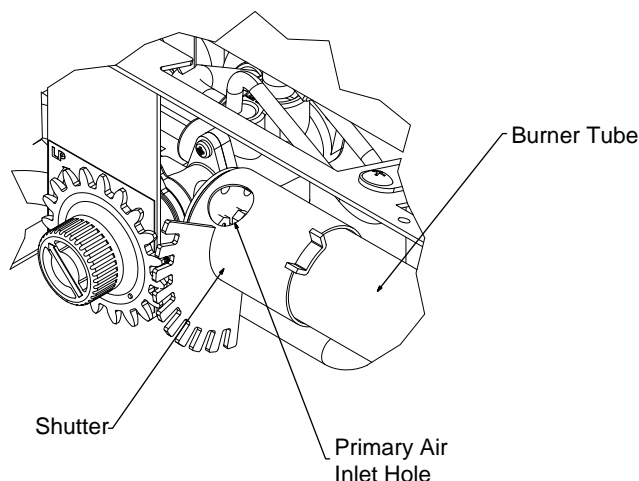

Fig. 31
2. Inspect burner, pilot and primary air inlet holes on orifice holder for dust and dirt (See Fig. 31).